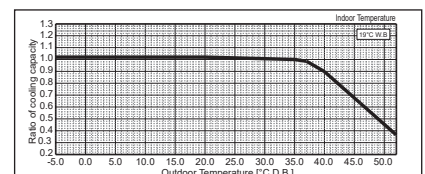

Figure 2 Outdoor unit temperature correction
(5) Outdoor Unit Correction Calculation
- Outdoor Design Dry Bulb Temperature Correction (38°C)      0.96 (Refer to Figure 2)